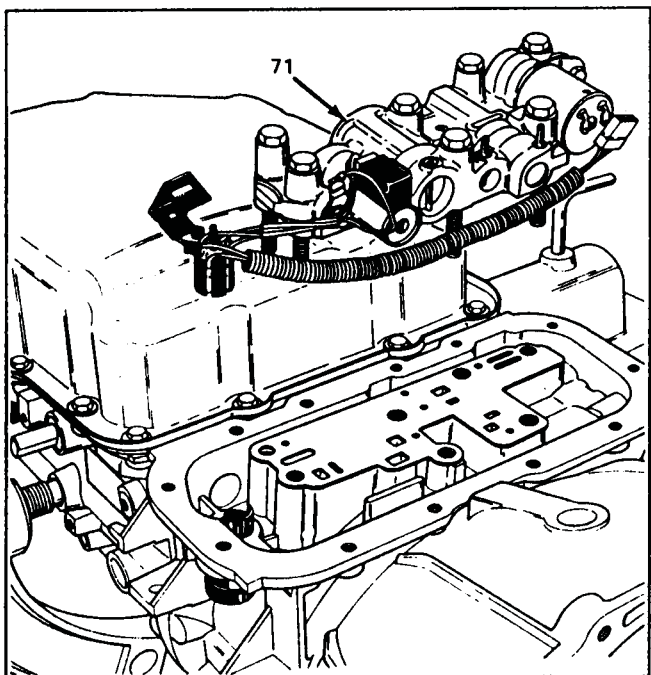

Figure 137
3. Position the pre-assembled adapter case valve body assembly as shown in Figure 137, and lower into place.